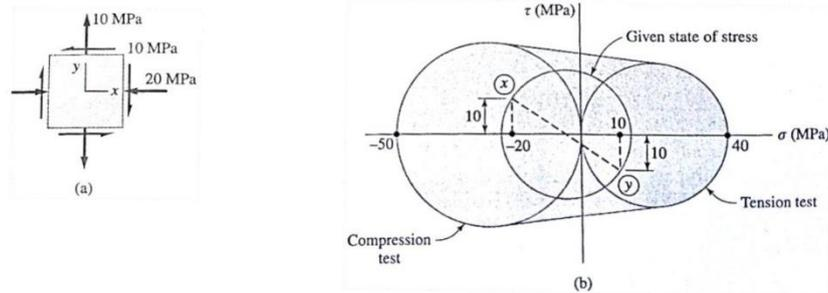

Figure Ex10.1 (a) state of stress; (b) Mohr's failure envelope
**Example - 5** The ultimate strength of a brittle material is 40 MPa in tension and 50 MPa in compression. Use Mohr's failure criterion to determine whether the plane state of stress in Fig. Ex10.1(a) would result in rupture of this material.
**Solution:** We first draw the Mohr's circles representing the states of stress at rupture for uniaxial tension and for uniaxial compression, as shown in Fig. Ex10.1(b). We complete the failure envelope by drawing tangent lines to the two circles. Any state of stress with a Mohr's circle that lies entirely within the failure envelope (the shaded area in the figure) is deemed to be safe against rupture. Otherwise, failure is predicted. The Mohr's circle representing the given state of stress is also shown in Fig. Ex10.1(b). Because the circle lies within the failure envelope, this state of stress would not cause rupture.